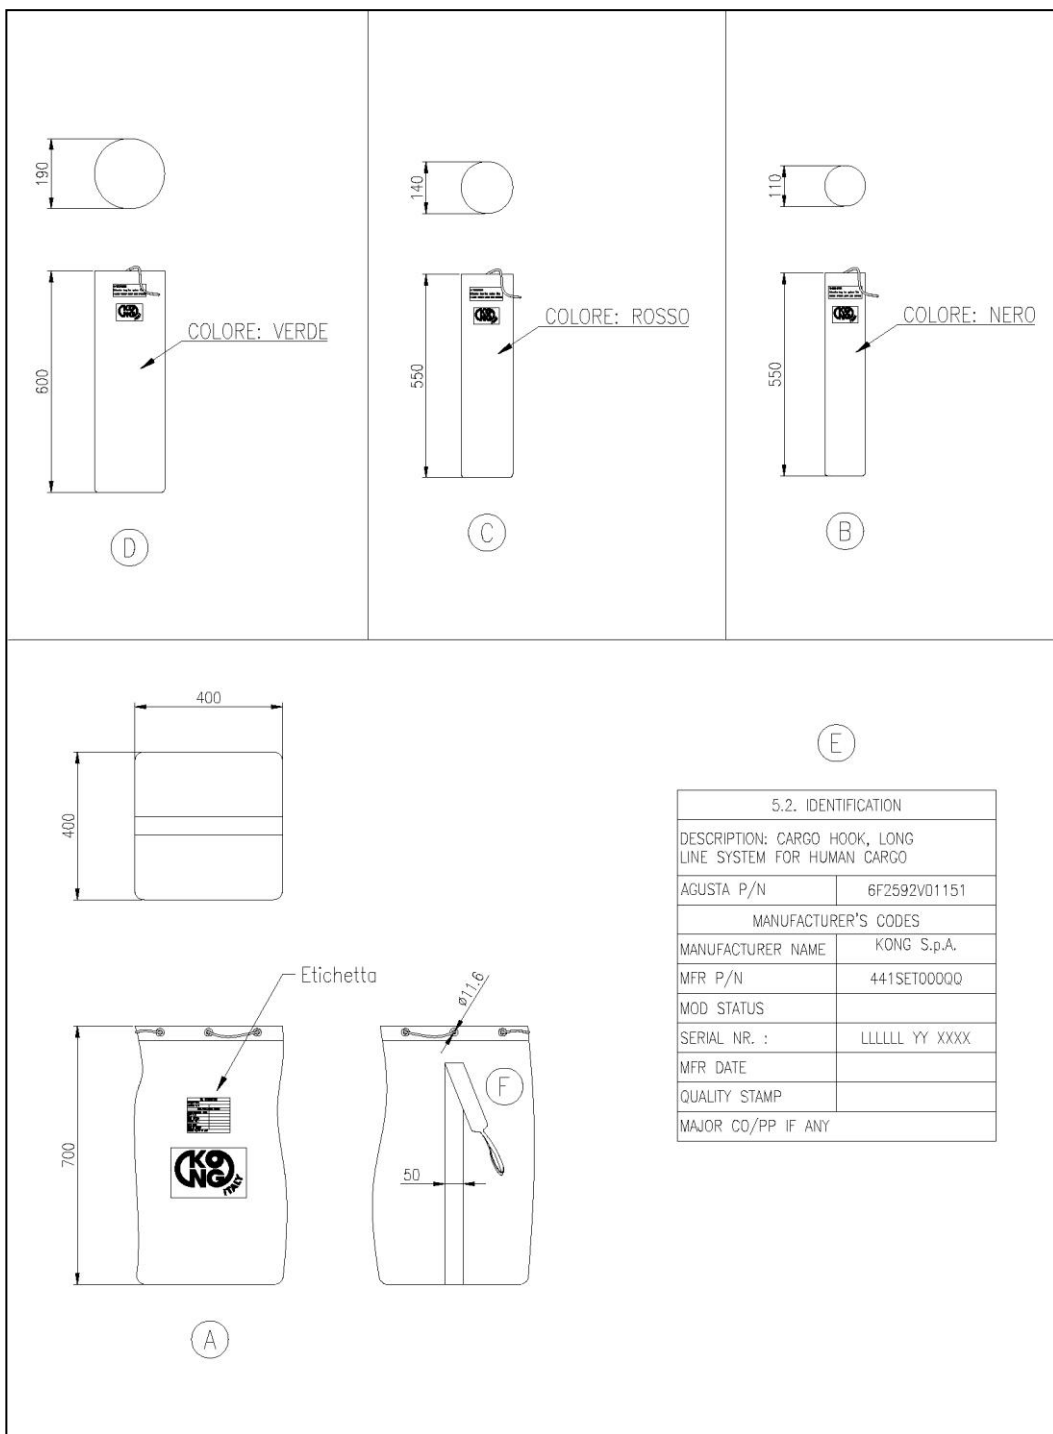

Fig.6 – Bags
The bag (fig 6) is composed of 4 bags of different colors and sizes to be used for storage and transport respectively:
Terminology of parts (Fig. 6): (A) Black PVC bag, (B) Black bag, (C) Red bag, (D) Green bag, (E) Label, (F) Bag carrying handles.